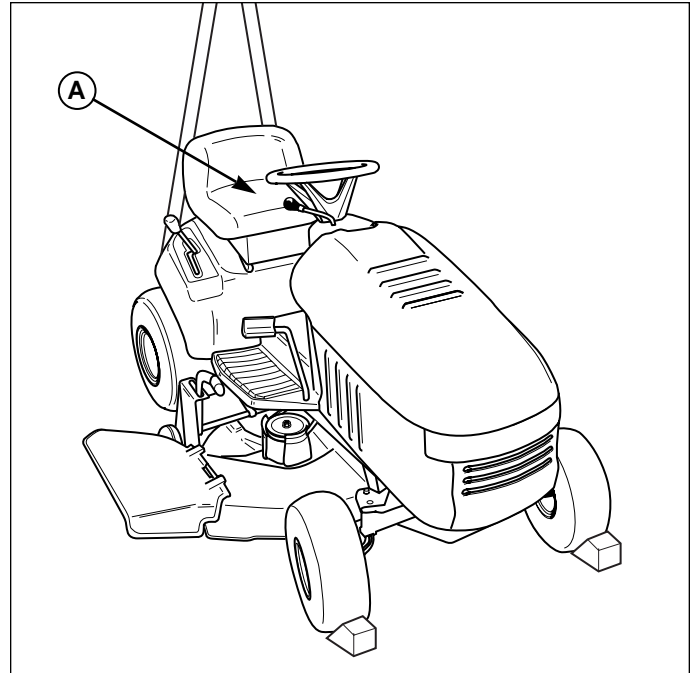
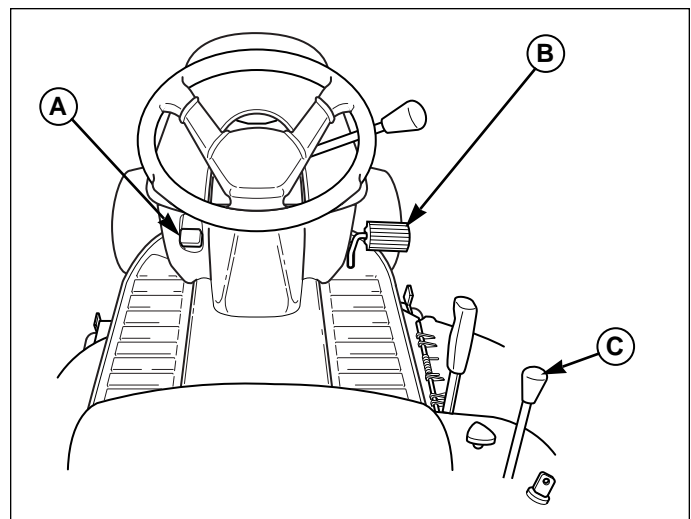
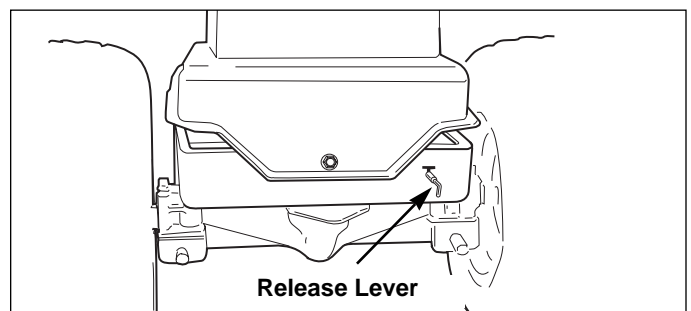

Figure 42. Elevate the Rear End of the Tractor
Figure 43. Controls
Figure 44. Release Lever - Hydro Models
1. See Figure 42. Block the front wheels. Elevate the rear end of the tractor using a chain hoist or floor jack. Support the rear of the unit using jackstands. Elevate the unit just high enough for the rear wheels to clear the ground.
2. Activate the seat switch (A, Figure 42), depress the clutch / brake pedal (B, Figure 43), and start the engine. After the engine has started, set throttle (A) to IDLE.
3. Release the brake pedal (B) and move the ground speed lever (C) fully forward.
4. While holding the ground speed control in forward position, engage and disengage the transmission release valve lever (Figure 43) several times.
5. Move the ground speed lever (C, Figure 43) to full reverse.
6. While holding the ground speed control in reverse, engage and disengage the transmission release valve lever (Figure 44) several times.
7. Engage the transmission release valve lever (Figure 44) and move the ground speed lever (C, Figure 43) from full forward to full reverse several times.